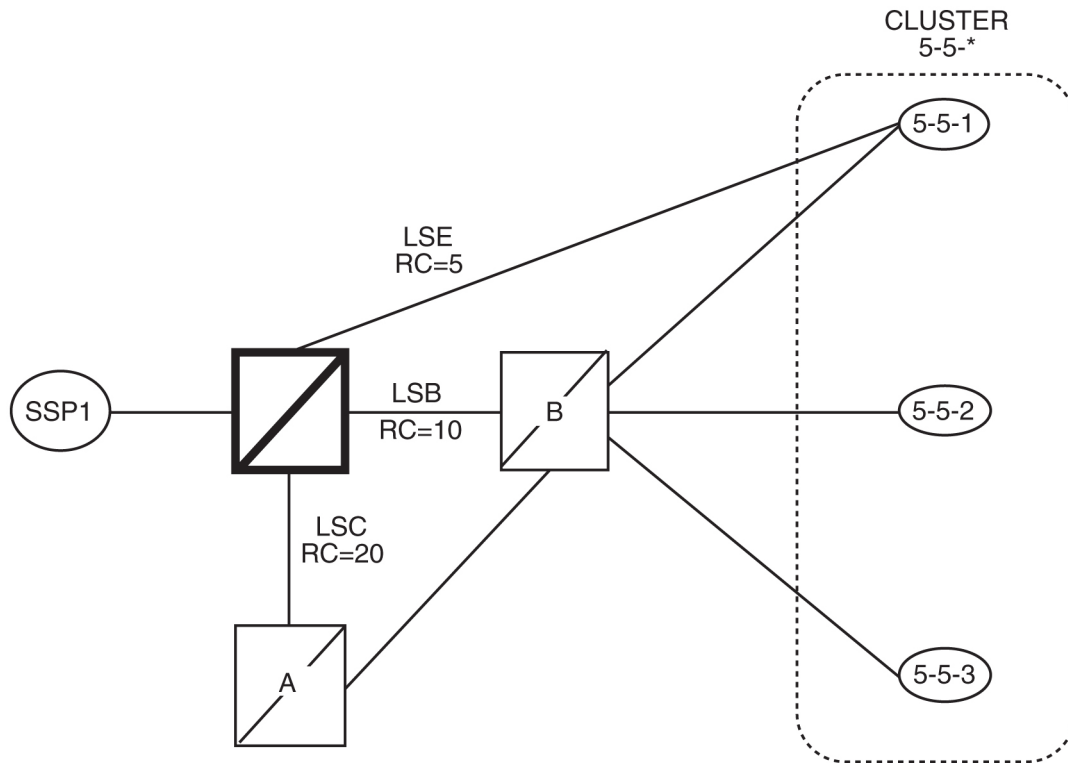

Figure 17: Nested Cluster Routing Sample Configuration
If the `ncai` parameter is `no`, standard command-handler rules apply (any full point code routeset within a cluster must have the same routeset as the cluster). If `ncai` parameter is `yes`, new command-handler rules apply (full point code routeset can be different from the cluster routeset). Figure 17: Nested Cluster Routing Sample Configuration provides an example of provisioning a nested cluster and its associated members.
1. The EAGLE allows the user to enter a full point code routeset entry even if the point code is a member of a cluster that has a different routeset. For example, in Figure 17: Nested Cluster Routing Sample Configuration, the provisioned member 5-5-1 has a different routeset than the cluster's routeset.
For example, in Figure 17: Nested Cluster Routing Sample Configuration, if linkset LSB fails, a TCP message for cluster 5-5-* is not broadcast because the least restrictive status of provisioned member 5-5-1 is allowed.
3. The EAGLE does not send preventive TCPs when it begins routing toward a nested cluster. The EAGLE sends response-method preventive TFPs if it receives an MSU and there is danger of circular routing. For example, in Figure 17: Nested Cluster Routing Sample Configuration, the EAGLE does not send a preventive TCP for cluster 5-5-* when routing to cluster 5-5-* over linkset LSB. However, if the EAGLE receives an MSU on linkset LSB destined for node 5-5-2, the EAGLE discards the MSU and sends a TFP to node B concerning node 5-5-2.
Figure 17: Nested Cluster Routing Sample Configuration provide an example of nested cluster routing. Table 11: Routing Table for Nested Cluster 5-5-* and Table 12: Routing Table for Full Point Code Member 5-5-1 show the routing tables for the cluster point code and one of the members of the cluster point code. Table 13: Example of Nested Cluster Routing Failure and Recovery Actions shows what actions the
EAGLE takes when the linksets in a nested cluster configuration fail and recover. The actions in Table 13: Example of Nested Cluster Routing Failure and Recovery Actions are based on the example nested cluster routing configuration shown in Figure 17: Nested Cluster Routing Sample Configuration.